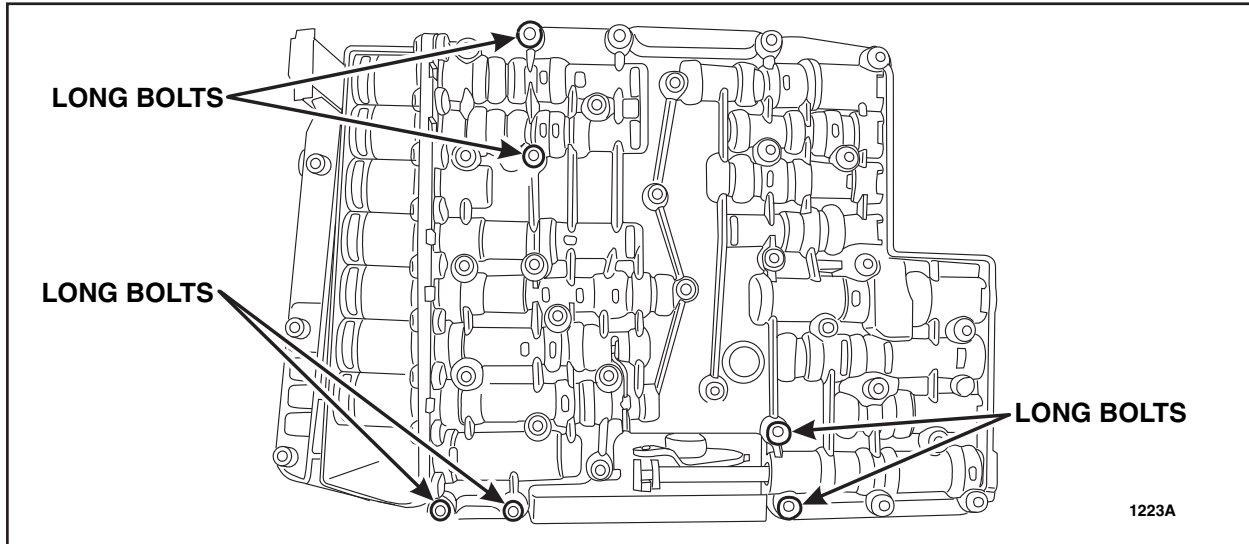

FIGURE 5
8. Install the six long bolts to the *new* molded lead frame. See Figure 5.